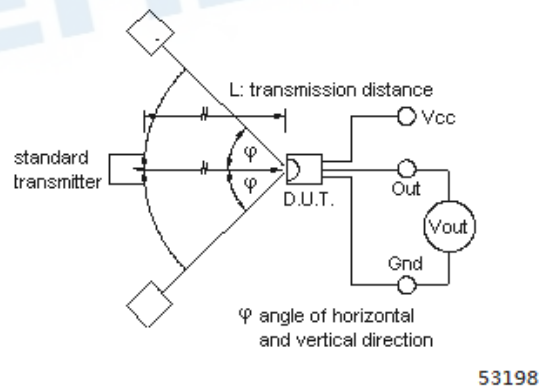

Fig.3 Measuring System
4. Test signal as shown below in figure 3